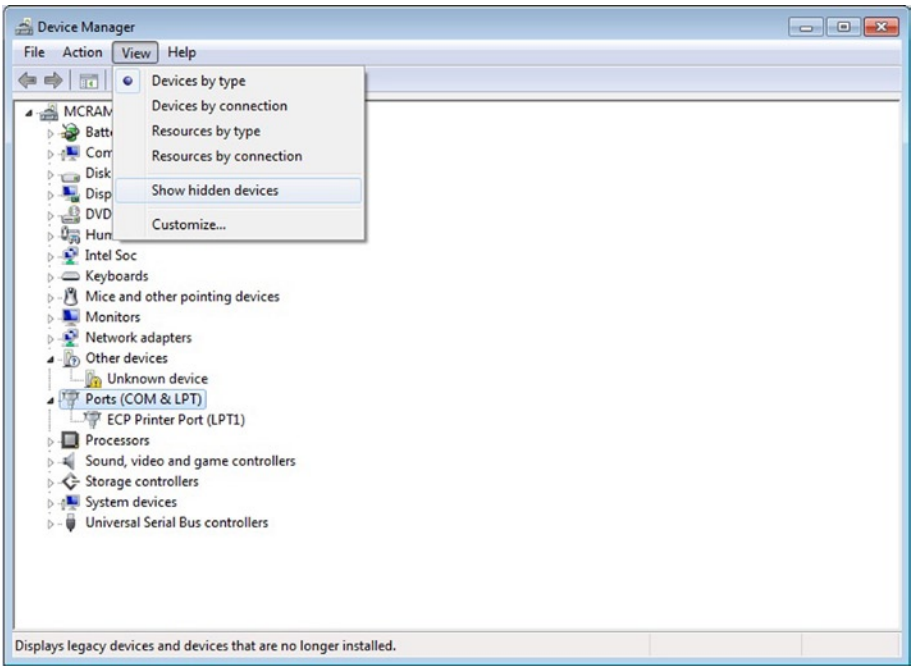

Figure 3-20. Enabling the “Show Hidden Devices” option
- 3. The Device Manager will show up. Choose View ► Show Hidden Devices. See Figure 3-20.